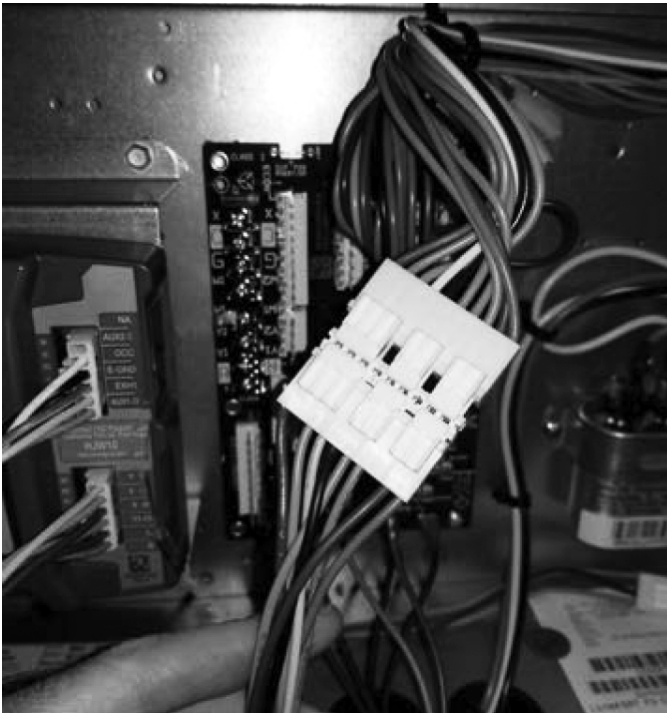

Fig. 10 — Connect 10-pin Plugs Together
12. Connect the 10-pin female ECON plug removed from the CTB to the 10-pin male plug from the controller harness. (See Fig. 10 and 25.)